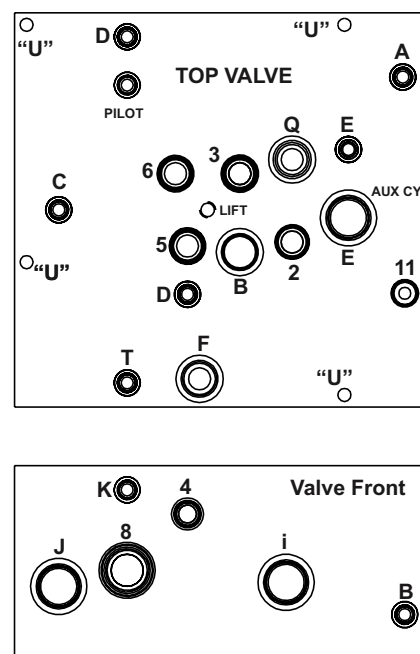

Figure 80 - Main Valve
2. Remove the 1/4" JIC cap on the main valve retract pressure port, see Figure 80 (Retract pressure